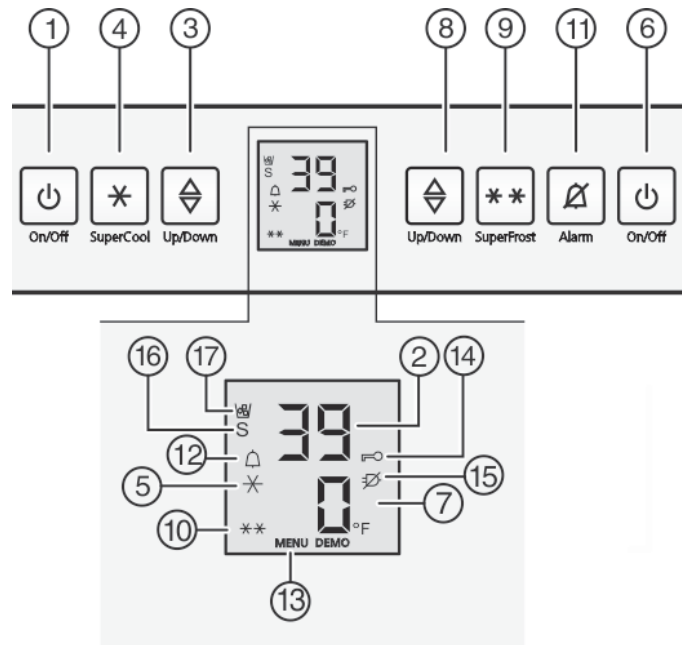

Fig. 3
- ▶ Press the Freezer compartment On/Off button *Fig. 3 (6)*.
- ▶ Press the Fridge compartment On/Off button *Fig. 3 (1)*
- ▶ Activate setting mode: Press SuperFrost button *Fig. 3 (9)* for about 5 seconds.
- ▷ The Menu symbol *Fig. 3 (13)* lights up.
- ▶ Use the Set freezer compartment button *Fig. 3 (8)* to select °.
- ▶ To confirm: Briefly press SuperFrost button *Fig. 3 (9)*.
- ▶ Select °F oder °C with the Freezer compartment set button *Fig. 3 (8)*.
- ▶ To exit setting mode: Press Freezer compartment On/Off button *Fig. 3 (6)*.
- ▶ To activate setting mode: Press and hold the SuperFrost button *Fig. 3 (9)* for approx. 5 seconds.
- ▷ In the display, the Menu Symbol *Fig. 3 (13)* is displayed.
- ▶ Use the Set freezer compartment button *Fig. 3 (8)* to select c.
- ▶ Confirm briefly by pressing the SuperFrost button *Fig. 3 (9)*.
- ▷ The Child Safety symbol *Fig. 3 (14)* lights up on the display.
- ▶ Press the freezer compartment On/Off button *Fig. 3 (6)* briefly.
► Press Alarm button *Fig. 3 (11)*.